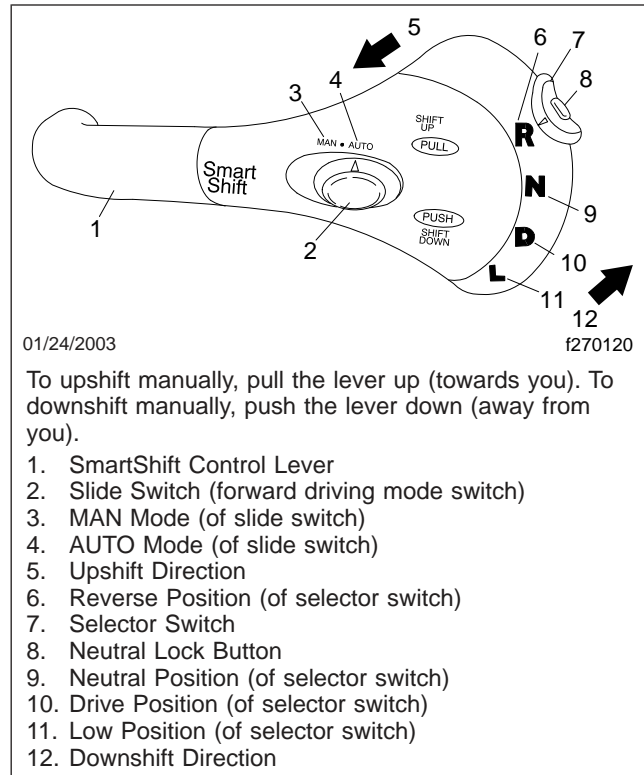
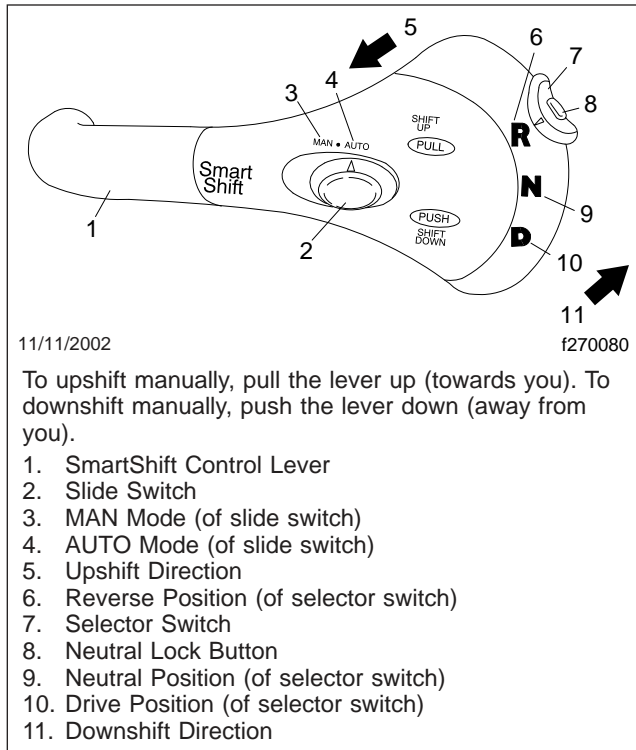

Fig. 8.1, Four-Position SmartShift Control (with Eaton Fuller AutoShift, UltraShift, and UltraShift PLUS)
Fig. 8.2, Three-Position SmartShift Control (with FreedomLine transmission)
For the Eaton Fuller automated transmissions, a four-position (R, N, D, L) selector switch (Fig. 8.1) is located at the end of the lever. For the FreedomLine transmission, a three-position (R, N, D) selector switch (Fig. 8.2) is located at the end of the lever.
- The SmartShift control paddle on the steering column. See Fig. 8.1.
A two-position slide switch (forward driving mode switch) is located near the end of the control (Fig. 8.1). The switch positions are labelled MAN (manual shift mode) and AUTO (automatic drive mode).
1. With the parking brake engaged and/or the brake pedal pressed down, select neutral (N) by pressing in the safety release and moving the selector switch to the center position. See Fig. 8.2.
3. With air pressure built up, select drive (D) by pressing in the safety release and moving the selector switch downward to the position below neutral. Release the parking brake and/or pedal.